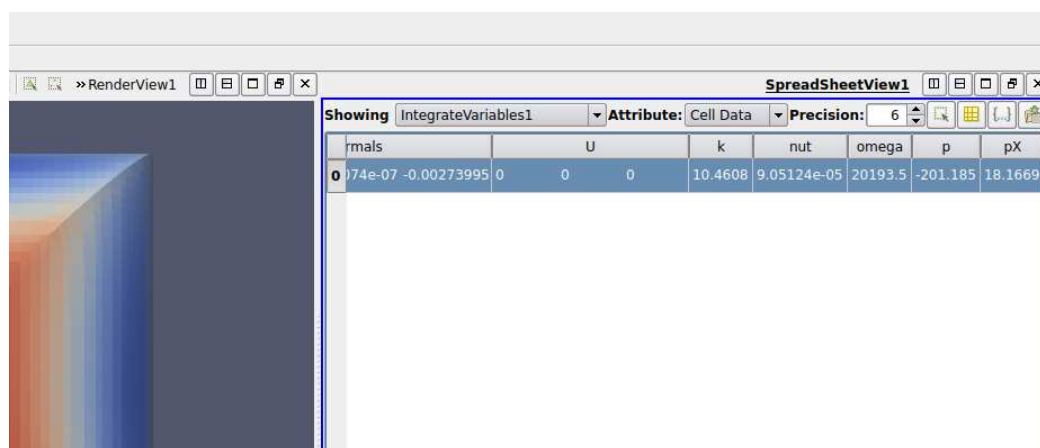

Figure 3.3: Drag force calculation using ParaView.
- 6) Set the 'Feature Angle' to 15 and select 'Compute Cell Normals' and click 'Apply' (figure 3.3).